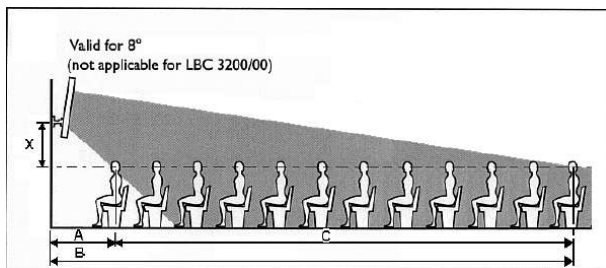
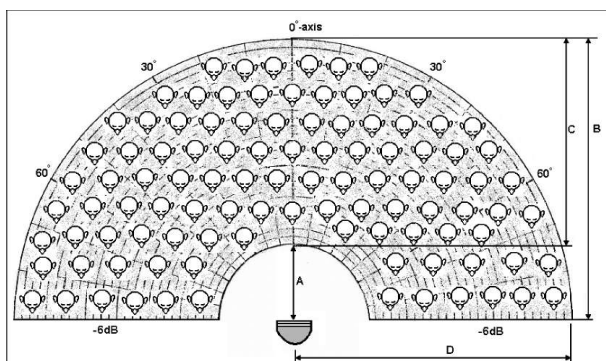
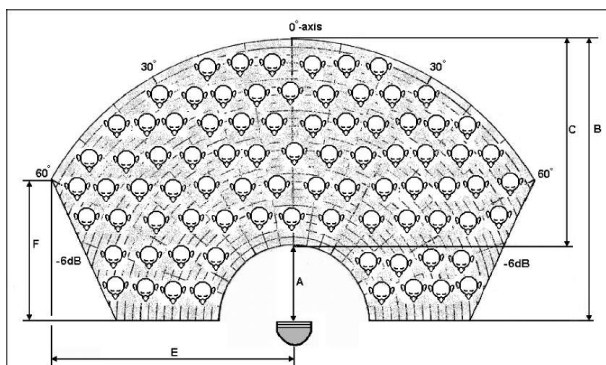

Figure 1: side view of loudspeaker array radiation and listening plan
Figure 2: 1 kHz octave shape of the loudspeaker array
Figure 3: 4 kHz octave shape of the loudspeaker array
1. Determine the dimensions of the desired 'listening area' (a horizontal plane at the level of the listeners' ears – refer to the dashed line in figure 1).
2. Measure the maximum distance from loudspeaker array to the last listener in the listening area (corresponding to 'B' in figures 1, 2 and 3).
3. Refer to diagram 1, and trace upwards from the maximum distance on the horizontal axis. From the vertical intersection with diagonal B-line, you go horizontal to the vertical axis. The X-value (height of loudspeaker array mounting bracket above the listening plane, 'X' in figure 1) is standing on this axis. The horizontal intersections with other diagonal lines provide information about the dimensions of the listening area. These numbers are related to figures 2 and 3 (see also example below).
4. Figure 2 shows the 1 kHz octave shape radiated by the loudspeaker array and figure 3 shows the 4 kHz octave shape radiation. The listening area with the optimal acoustic performance is in these shapes. Ensure the 4 kHz shape with the dimensions obtained using diagram 1 adequately covers the desired listening area.